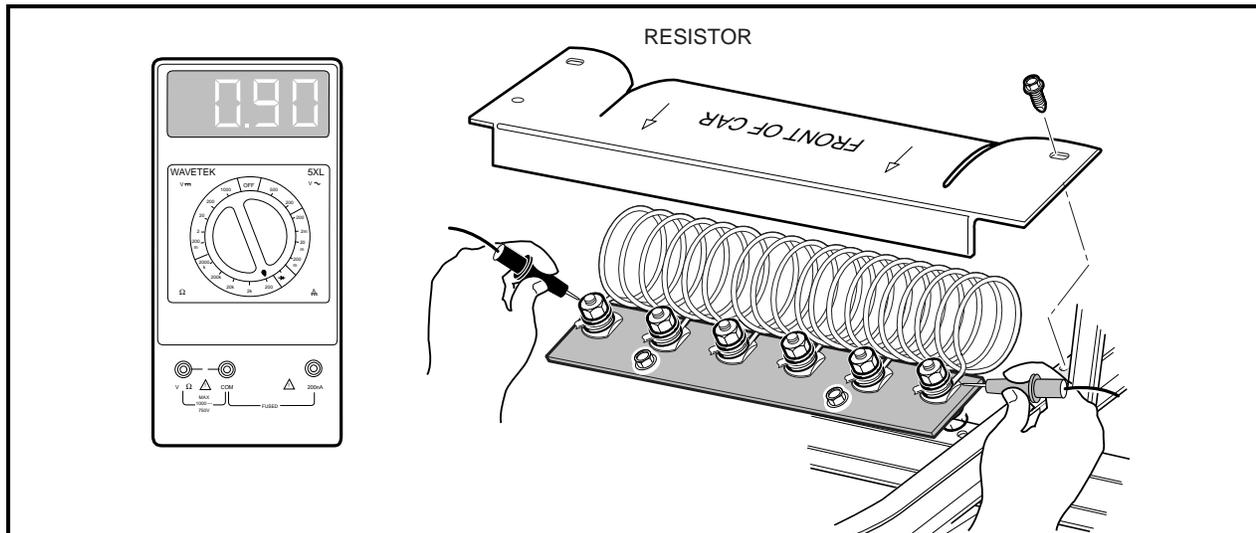

Figure 11-11 Resistor Test
2. If there are no problems, place the red (+) probe of the multimeter (set to 200 Ω) on the first resistor connection, and place the black (-) probe on the last resistor connection. The reading should be continuity or approximately .9 ohms (**Figure 11-11, Page 11-10**).